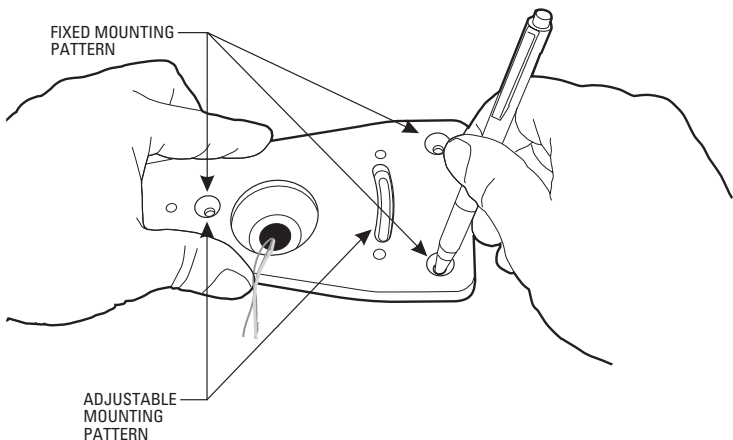

Figure 2. Mounting Patterns (Watertight Mounting Plate Shown)
3. **Outdoor Installation** – Refer to Figure 2 and select the mounting pattern: fixed or adjustable. Use the watertight mounting plate as a template and mark the fastener hole positions on the mounting surface. Prepare the holes for the fasteners.
Indoor Installation – Refer to Figure 2 and select the mounting pattern: fixed or adjustable. Use the base of the ICS200 as a template and mark the fastener hole positions on the mounting surface. Prepare the holes for the fasteners.